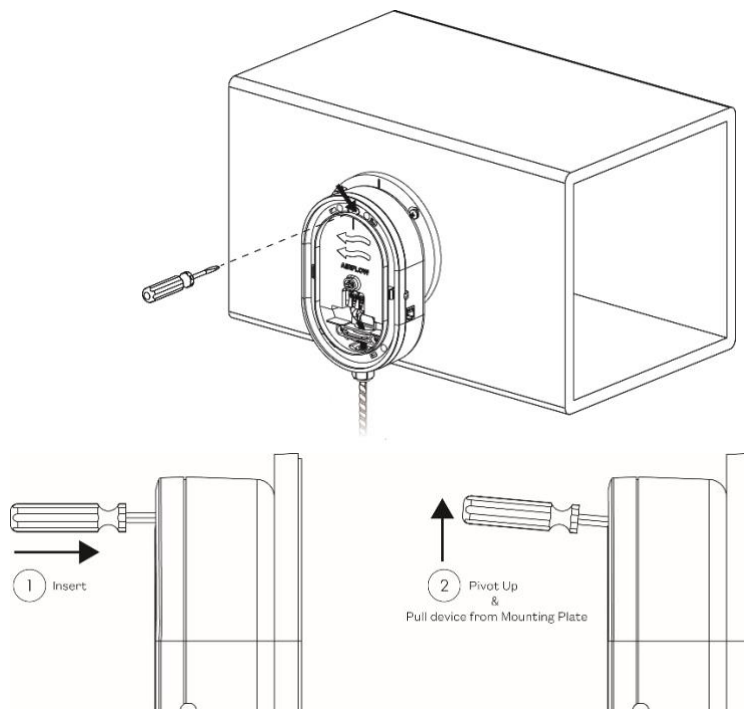

Figure 8: Unmount the RapidPURE by inserting a tool in the slot at the top of the chassis, pivoting up and pulling the chassis out of the mounting ring.
- c. With the front cover removed, insert the flat screwdriver into the slot on the top of the RapidPURE chassis, pivot up and pull the chassis out of the mounting ring (Figure 8).